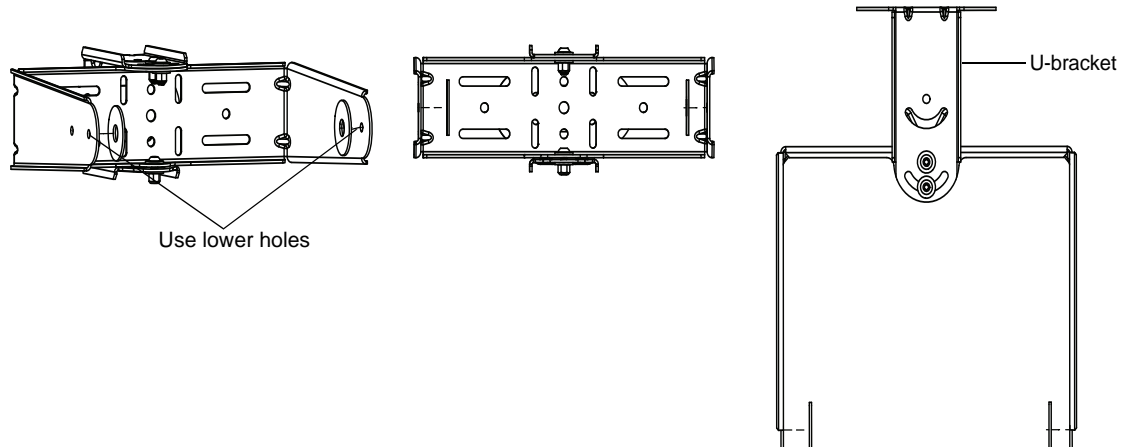

Figure 2-18 Attachment Points for Maximum Vertical and Horizontal Angle Adjustment (Top View)
- For maximum vertical and horizontal angle adjustments, use the holes on the yoke and U-bracket, as shown in Figure 2-18.